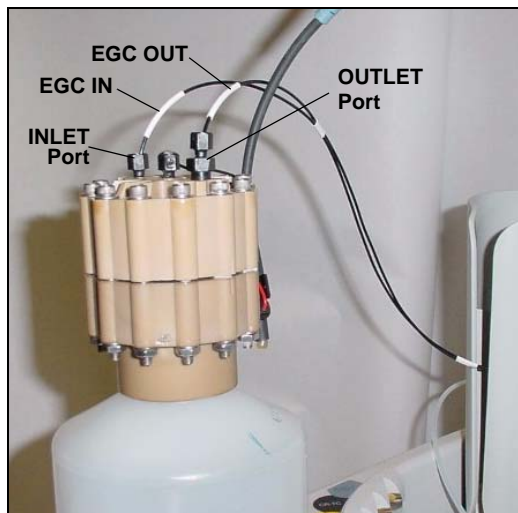

Figure 5-34. Disconnect the EluGen Cartridge Inlet and Outlet Port Lines
8. Disconnect the **EGC IN** and **EGC OUT** lines from the **INLET** and **OUTLET** ports on the EluGen cartridge (see Figure 5-34).
8. Disconnect the **EGC IN** and **EGC OUT** lines from the **INLET** and **OUTLET** fittings on the EluGen cartridge (see Figure 5-34).